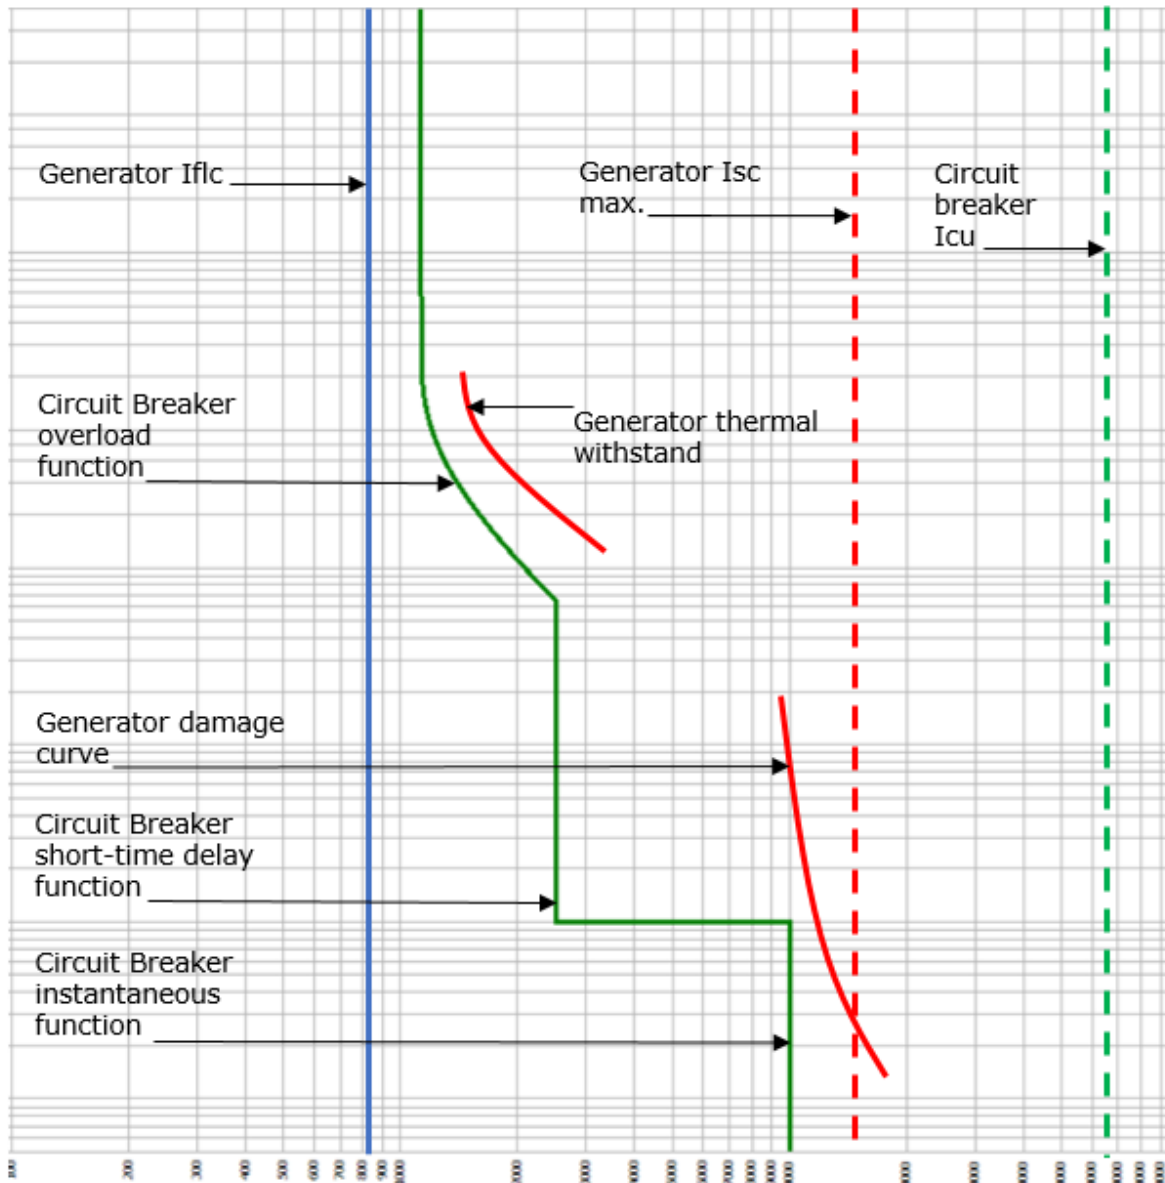

Figure 1. Parameters for Selection and Setting: Graphical
3. The circuit breaker must trip before the generator is damaged by an overload. Establish generator thermal withstand capability from the generator manufacturer's data. Set overload protection function so that it falls to the left of the generator thermal withstand curve. Refer to **Figure 1** for graphical representation.
4. The circuit breaker must trip before the generator is damaged by a short-circuit. Establish the generator damage curve from the generator manufacturer's data. Set the circuit breaker short-time delay function or instantaneous function so that it falls to the left of the generator damage curve. Refer to **Figure 1** for graphical representation.
5. The circuit breaker must be set to trip instantaneously when the generator delivers maximum short-circuit fault current. Refer to **Figure 1** for graphical representation.
The graphical representation in **Figure 1**, was generated using TemCurve Lite 3.0 software from Terasaki. It can be used to visualise and plan the protection settings for all types of Terasaki circuit breakers. Free to download from <http://www.terasaki.co.uk/products/electrical-design-software/>